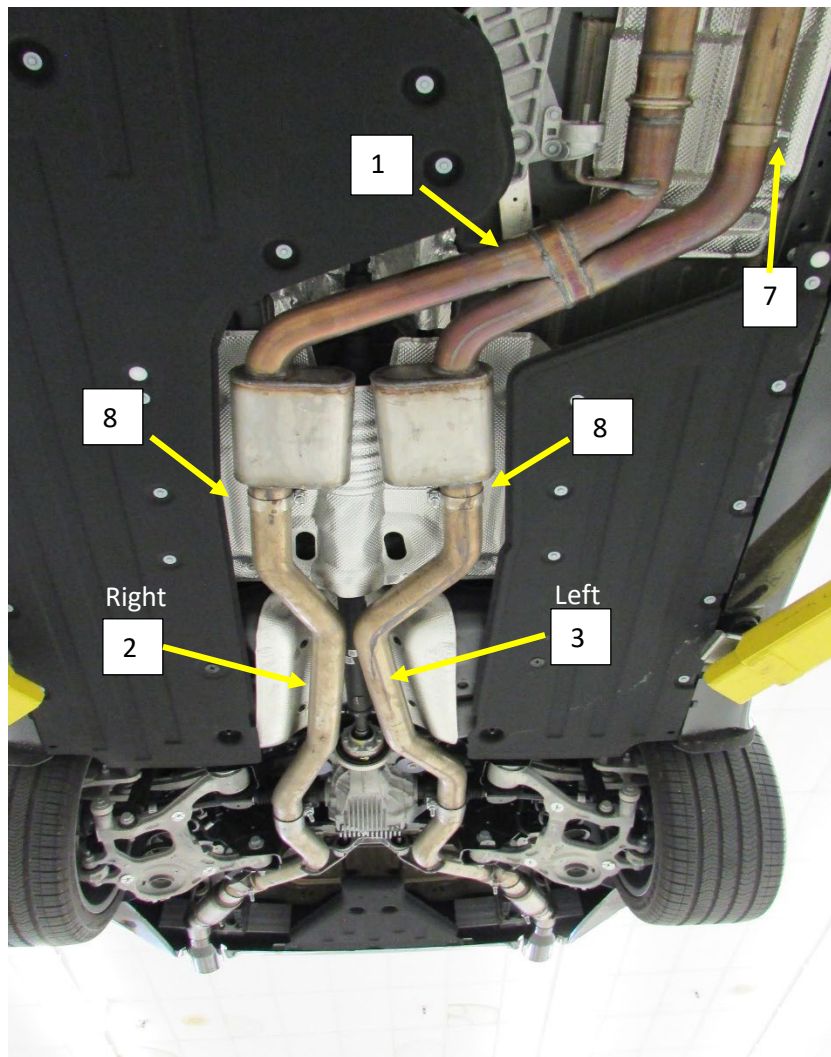

Figure.6
5. Install the Flowmaster scavenger assembly **(1)** into the vehicle and support the assembly. **Fig. 6**
7. Align the Scavenger pipe assembly in the transmission tunnel with the resonators equal distance from the under panels on either side and with $\frac{1}{4}$ " air gap between the resonator and heat shield at the top. **Support the scavenger pipe in this position.** This will provide clearance of approximately $\frac{1}{2}$ " after the exhaust is completely installed and the supports are removed. **Fig.6**
9. Install a 3" band Clamp **(8)** on to each of the resonator expanded outlets. **Fig.6**
10. Install the left Mid Pipe **(3)** with the longer straight into the resonator. **Fig.6**
11. Install the Right Mid Pipe **(2)** with the longer straight into the resonator. **Fig.6**